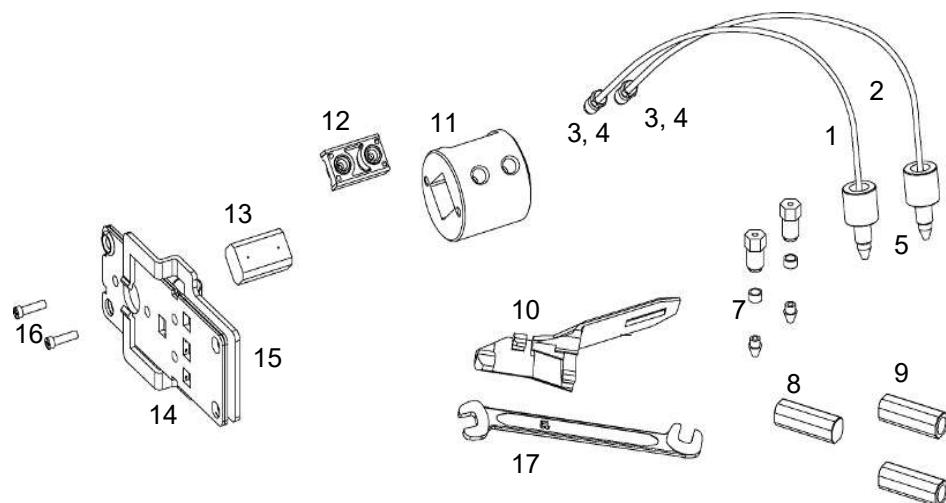

Figure 60: Content of kits
**Figure 60** on page 251 shows all parts delivered with the nano-flow cell kits.